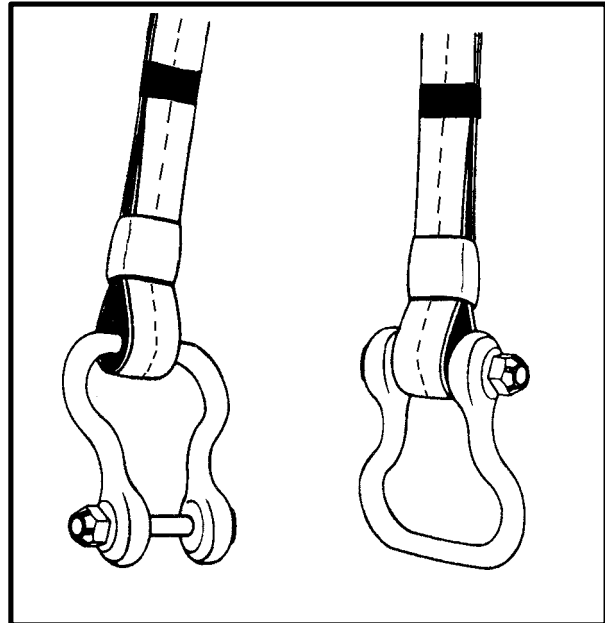

Figure 6-31. Sling-to-Clevis Attachment (Vertical Hitch)
(1) The most common form of load attachment is the sling-to-clevis (vertical hitch) attachment shown in Figure 6-31. This method is preferred because it is the quickest and easiest to remove.